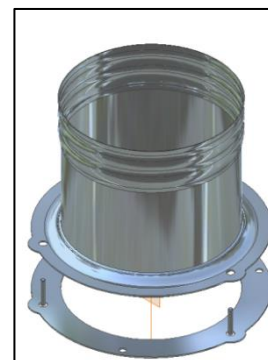

Figure 3-7: 6CON Liner Connector
The Astra 24 fireplace can be connected to a masonry chimney that complies with current national and municipal building codes. A 6 inch chimney liner that complies with ULC S635 M2000 (Canada) or UL 1777 (US) standards must be installed within the existing masonry chimney. Note that the 6CON connector (manufactured by SUPREME FIREPLACES INC.) must be installed to connect the prefabricated chimney to the liner (6CON sold separately). Refer to Figure 3-7.